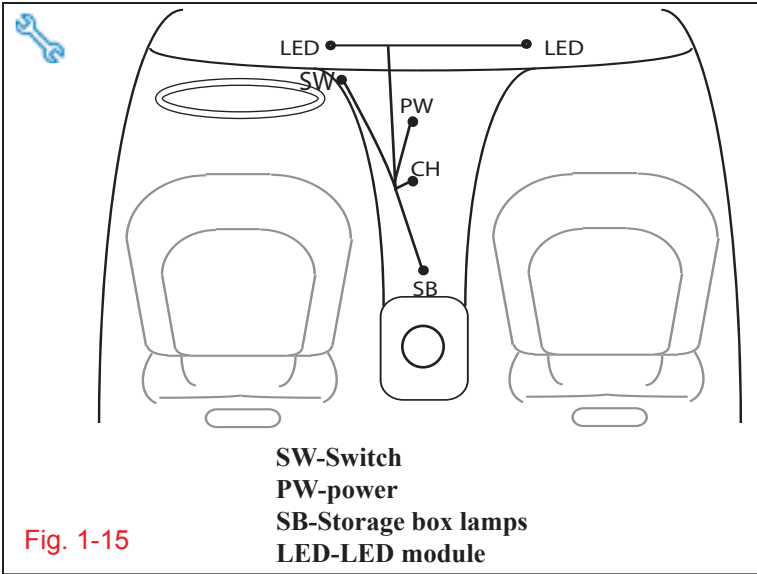

Fig. 1-15
- a. Lay out harness as shown and identify connectors. (Fig.1-15)